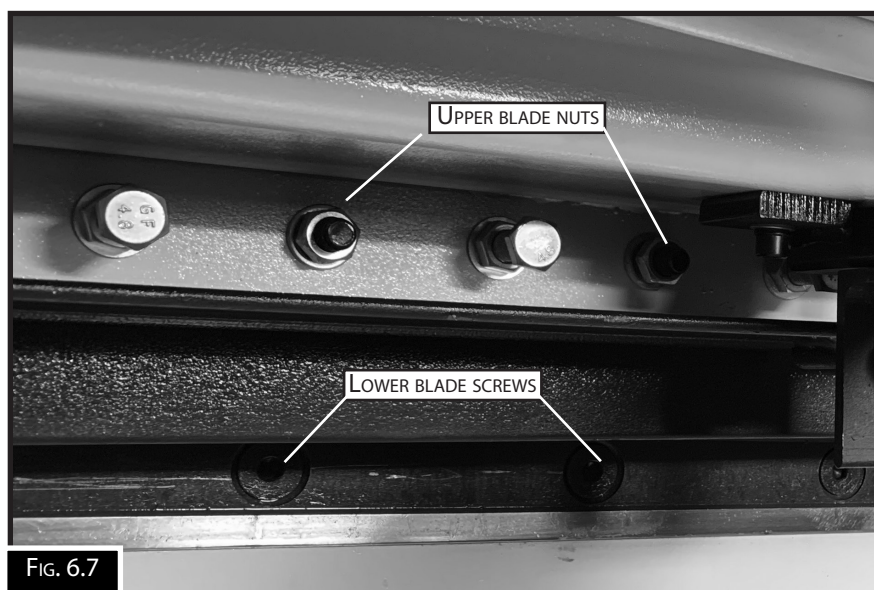

FIG. 6.7
3. Release the entire lower blade screws, accept for one screw in the centre of the blade. (Fig. 6.7) Place two dowels 12mm diameter by 100 mm long into two screw holes, one at each end of the blade.
4. Two people will be required at this stage. Whilst holding the blade in position, remove the remaining screw. Slide the lower blade onto the two dowels. While taking the weight off the blade, remove the dowels and lower the blade. Once the blade has been removed then remove the upper blade by loosening the nuts, (Fig. 6.7) and removing all but two of the nuts. Once the blade has been released from its position then, support the blade and remove the last two nuts, and remove the blade.